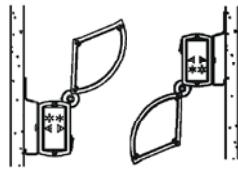

FIG.3a
2. Determine light beam orientation (uplight or downlight). (Fig.3a & 3b)